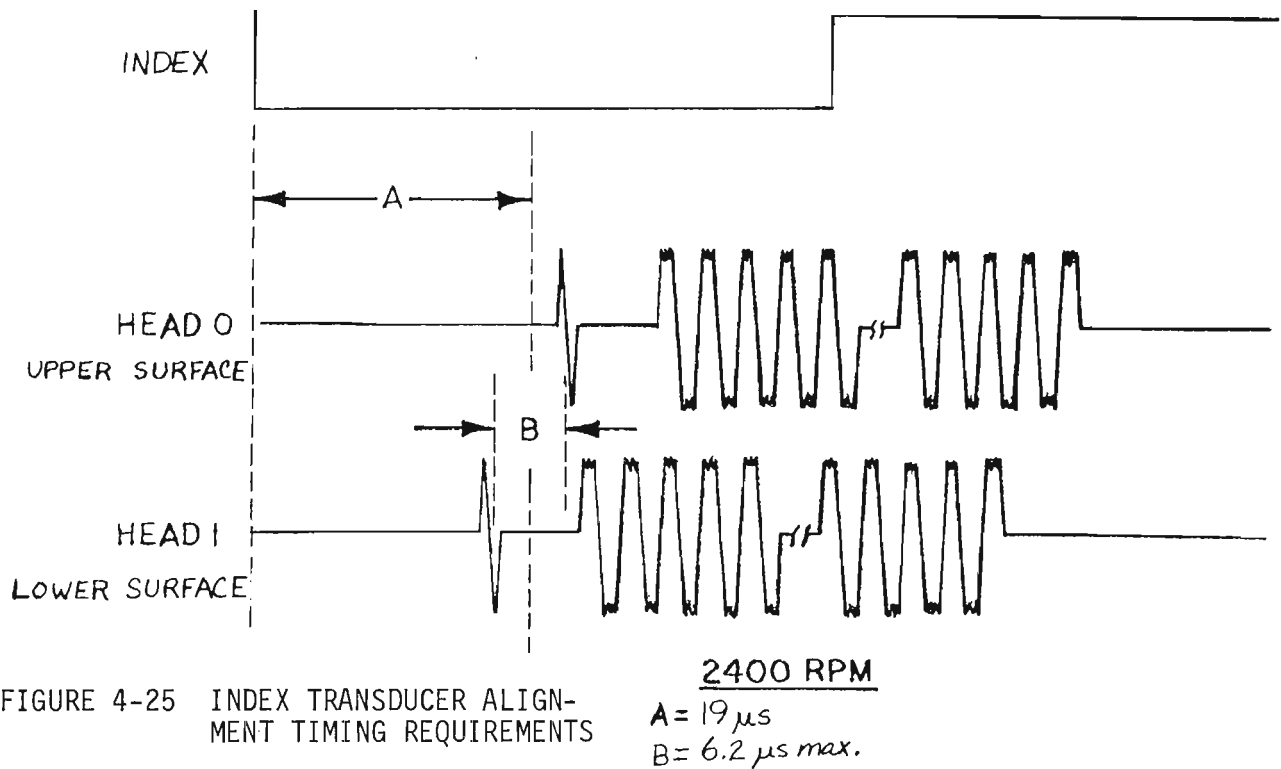

FIGURE 4-25 INDEX TRANSDUCER ALIGNMENT TIMING REQUIREMENTS
4. Using the adjustment screw ("B" Figure 4-24), position the index transducer so that the leading edge of the read gate occurs at $30 \mu\text{sec} \pm 5 \mu\text{sec}$ after the leading edge of the index mark ($19 \mu\text{s} \pm 3 \mu\text{s}$ for 200 TPI). Do not tighten the fastening screws yet. See "A" in Figure 4-25.
5. Alternately selecting each of the upper heads, adjust the index transducer so that the read gate is symmetrical around the 30 usec (19 usec for 200 TPI) point. Total pulse separation (relationship) between the heads shall not exceed 10 usec for 43 (6.25 usec for 44). If this tolerance is exceeded, the heads must be checked for proper seating. See specification "B" in Figure 4-25.